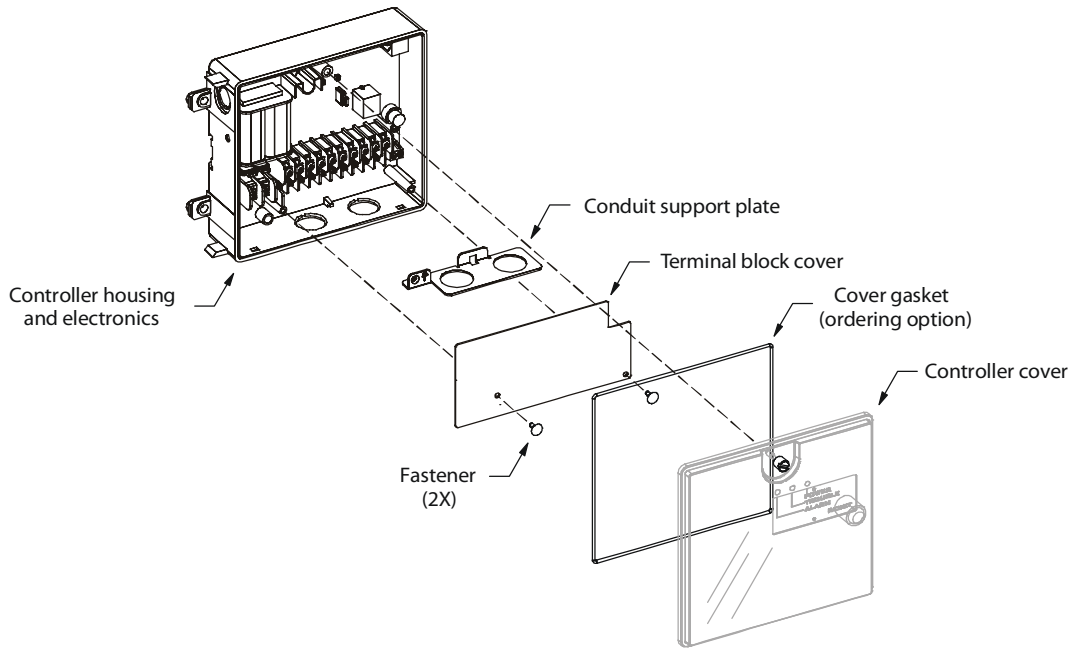

Fig. 3 - Controller Exploded View
- Alarm, Trouble, Dirty, and Power status LEDs. (See Table 1 and Fig. 3.)
2. Remove plastic cover from controller. (See Fig. 3.)